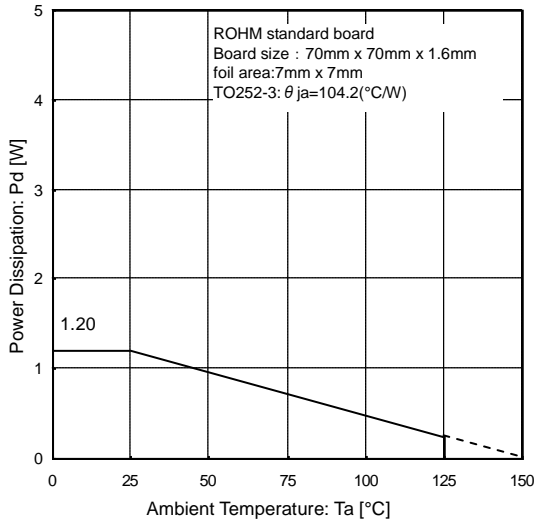
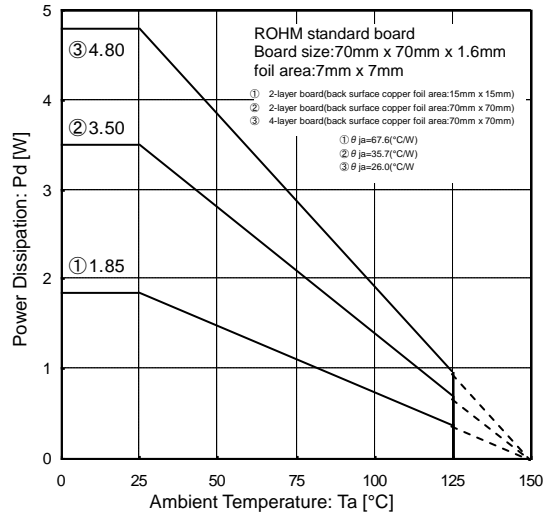

Figure 10
Figure 11
When operating at temperatures above $T_a=25^\circ\text{C}$, please refer to the derating factor shown in Figure 10 and Figure 11. The IC characteristics are closely related to the temperature at which the IC is used. It is necessary to operate the IC at temperatures below the maximum junction temperature (T_{jmax}).
Figure 10 and Figure 11 show the acceptable loss and derating factor of the TO252-3 package. The chip junction temperature (T_j) may be quite high even if the ambient temperature (T_a) is at room temperature (25°C). It is recommended to operate the IC at temperatures where Power Consumption (P_c) is less than the Power Dissipation (P_d).
The calculation method for Power Consumption P_c (W) is as follows : (Figure 11③)